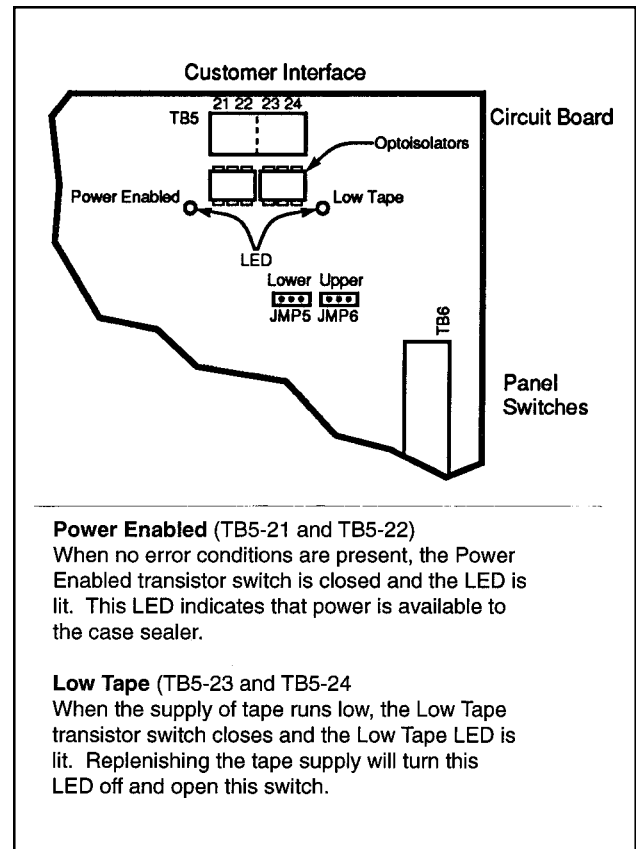

Figure 5-1 – Customer Interface
### Customer Interface – Figure 5-1 & 5-2
- Interfacing the PLC of the 800rf directly to the photo transistor outputs on the circuit board of the TAS as shown in Figure 5-1. The exact connection when interfacing to the 800rf's PLC depends on the present status of the 800rf and the desired action of the case sealer after an error has been detected.